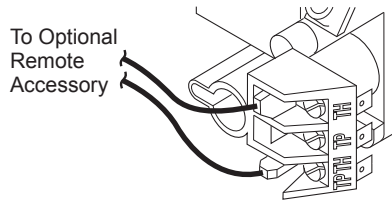

Figure 38 - Control Valve Terminals
1. Open bottom louver (V)(KC36 series) or remove screen door assembly (V)(KCC36 series) and locate switch bracket on the right.
4. Connect wires from receiver to TH and TPTH to control valve (see Figure 38).